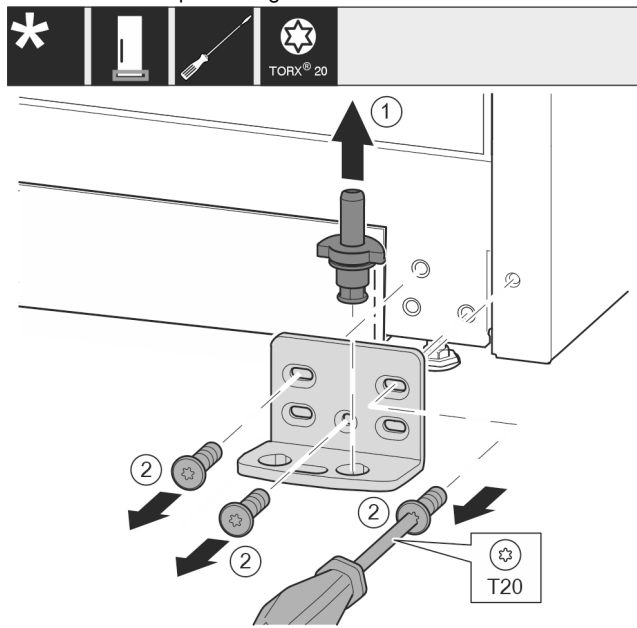

Fig. 17 \*
- Pull the bearing bolt Fig. 17 (1) out upwards completely.\*
- Use screwdriver to unscrew the screws Fig. 17 (2) and remove the swap bearing block.\*